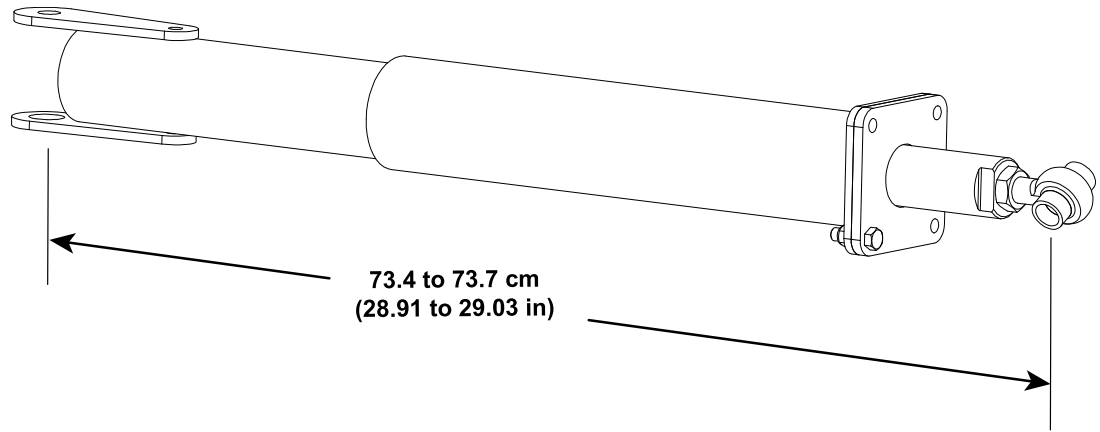

Figure 19
10. Thread rod end (1) with jam nut (2) into end of the spring shaft so that distance from center of the impact housing mounting hole is from **73.4 to 73.7 cm (28.91 to 29.03 in)**; refer to Figure 19. Do not tighten the jam nut until the impact arm is installed to cutting unit.